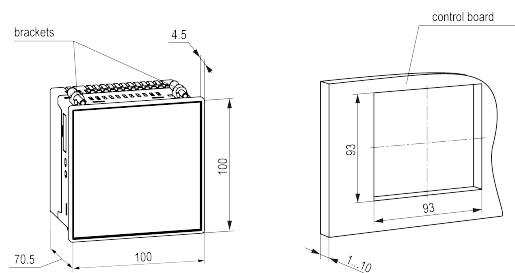

Fig. 2 – Overall and cut-out dimensions
1. Prepare an installation cut-out in the control board (see Fig. 2).